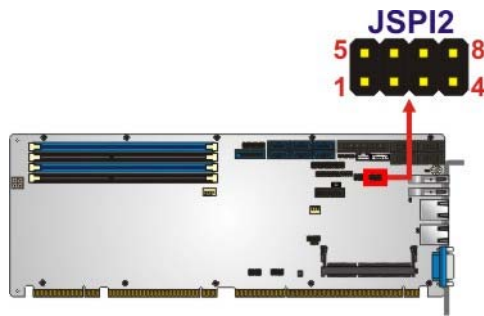

Figure 3-24: SPI EC Flash Connector Location
- CN Location:** See **Figure 3-24**